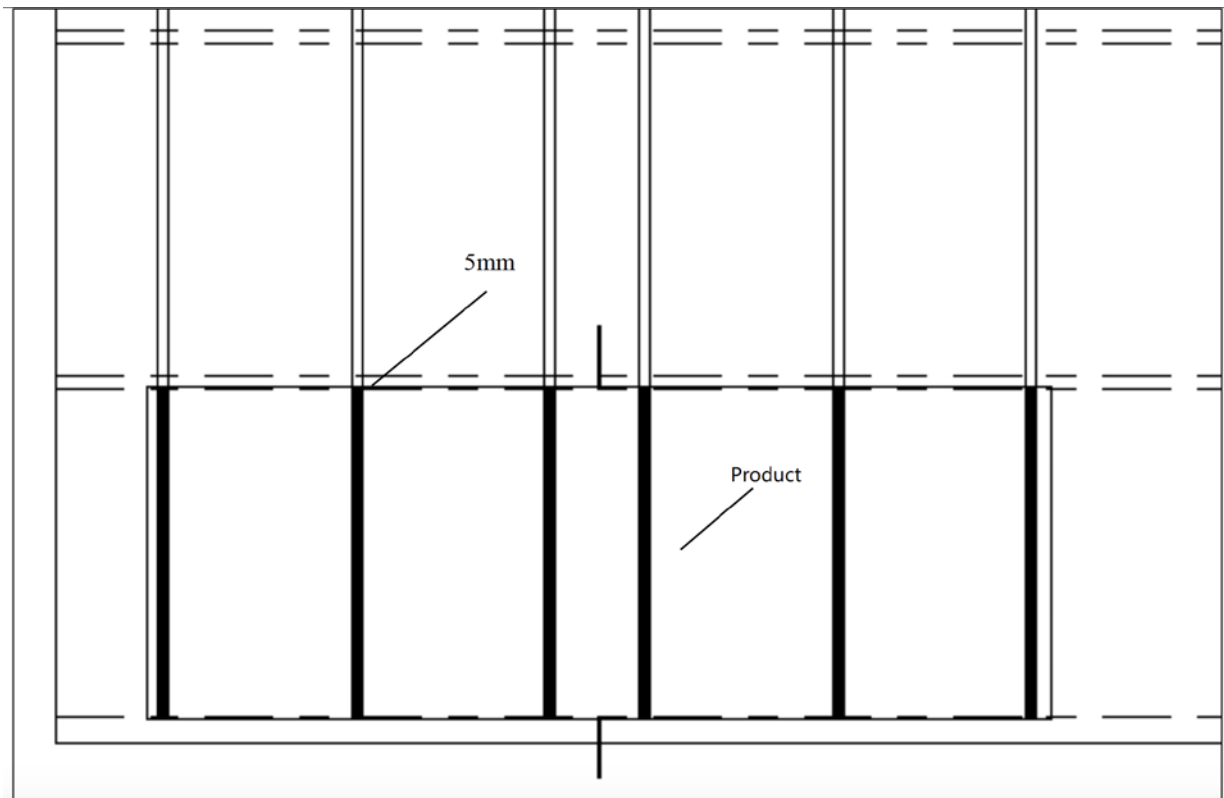

Figure 16
- ⑥ Two people should grab the four corners of the Galaxy product, lift and carry it vertically, and then adhere the Galaxy product face-up to the support tube. The end of the structural adhesive should be indented by 5mm compared to the long edge of the product (Figure 16).